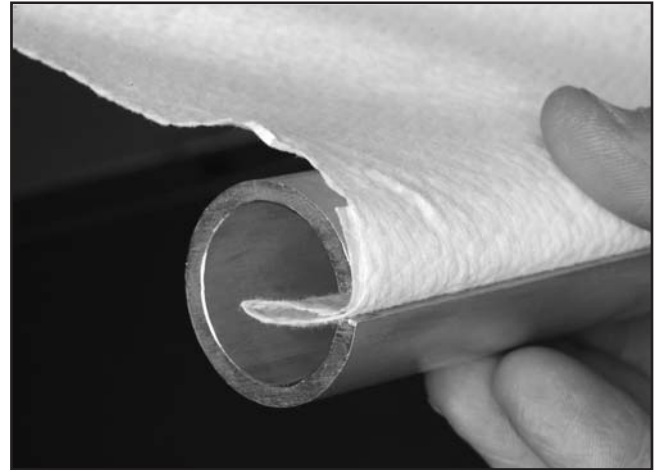

Figure 32. Wrapping the recovery axle.
13. Place the end of the filter paper in the slot cut into the axle, and with your fingers, turn the axle toward you so you get a couple of wraps of paper on the roll (**Figure 32**).